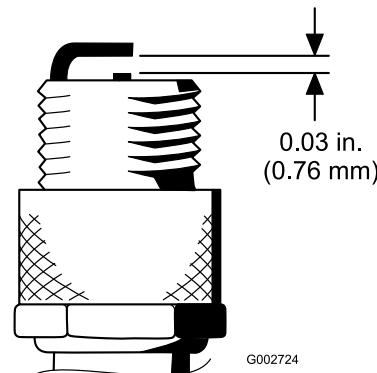

Figure 46
- Set the air gap between the center and side of the electrodes at 0.030 inch (0.76 mm) (Figure 46).